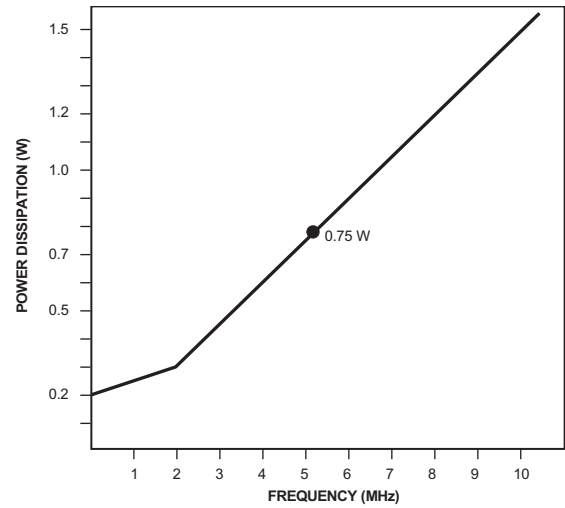

Figure 4. Power Dissipation Versus Switching Frequency
Pd versus Frequency	See Figure 4.
- When power is off, current limit input signals on pins 4, 5, 6, and 7 to 20mA. Failure to current limit can cause permanent damage to the device since, when powering up or down it is possible that two switches might be on at the same time. Excessive current (greater than 20mA) will flow from the more positive input to the more negative input, permanently damaging the device. Applications in which the power supply for the multiplexer also powers the signal sources may not require limiting resistors. See Figure 4.